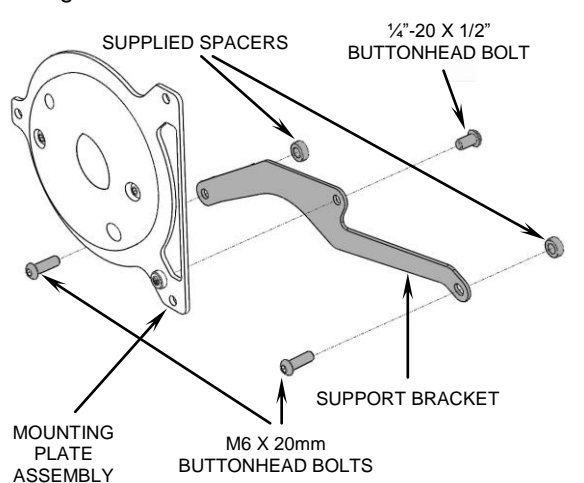

FIGURE 2
6. Attach the support bracket to the backside of the mounting plate using the (1) supplied 1/4"-20 X 1/2" buttonhead bolt, but do not fully tighten at this time. See Figure 2 for orientation.
8. Align the holes in the support bracket with threaded holes in the cylinder heads, then insert the (2) supplied M6 x 20mm buttonhead bolts through the support bracket, supplied spacers and into the cylinder heads. See Figure 2.